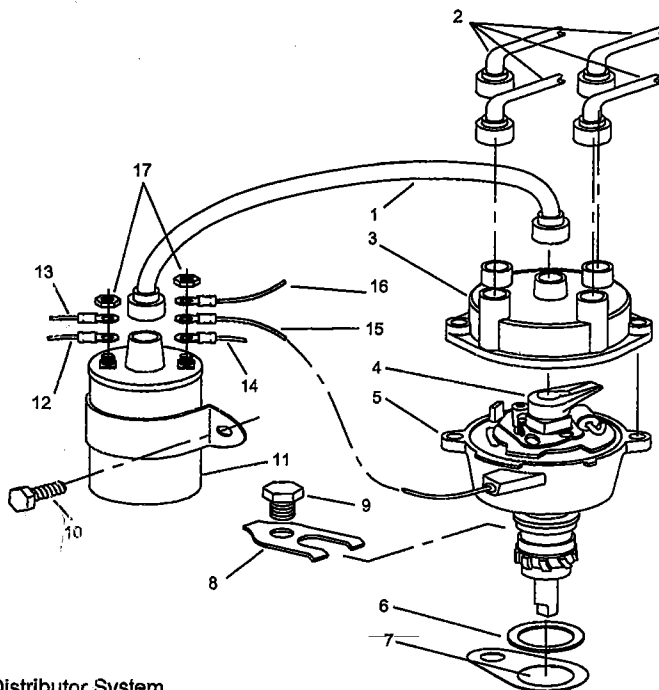

Figure 1 - Old Distributor System
3. Disconnect primary wires from ignition coil which may include tachometer and shift interrupt leads where applicable. Wires can be removed or taped back to prevent accidental contact (see Figure 1).